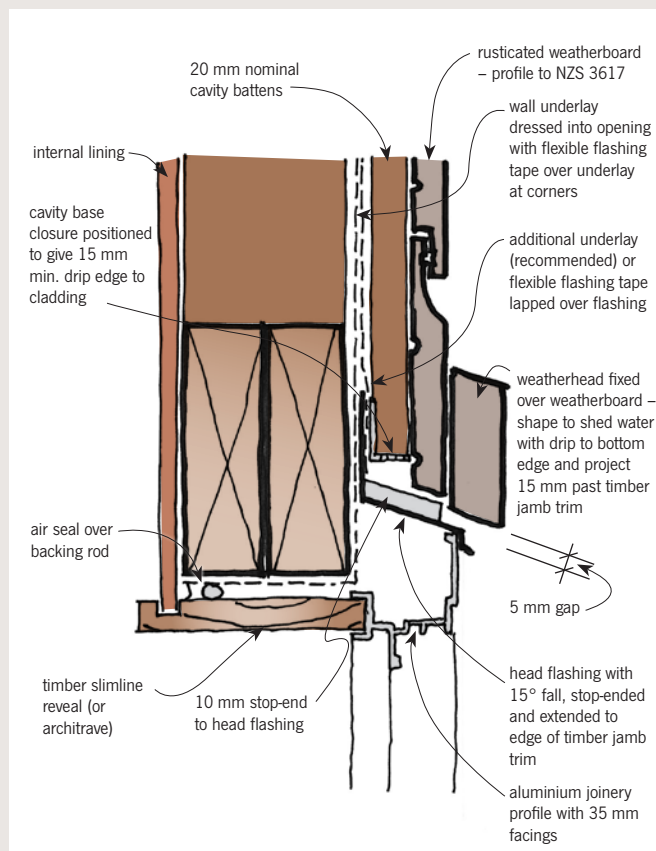

Figure 3: Detail of an aluminium window cavity head. (Source: BRANZ Weathertight Solutions Volume 1 Horizontal weatherboards.)
- treat the head similarly (see Figure 3).